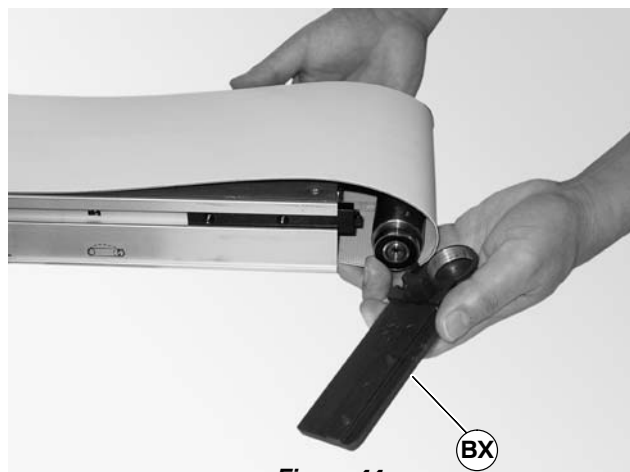

Figure 44
2. Remove the head plate (BX of Figure 44) from the conveyor frame.